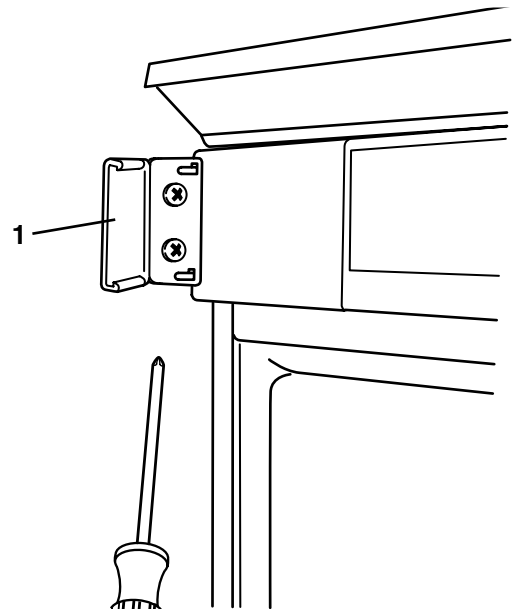

Figure 16
- Gently pry open the top bracket cover (Fig. 16, 1).